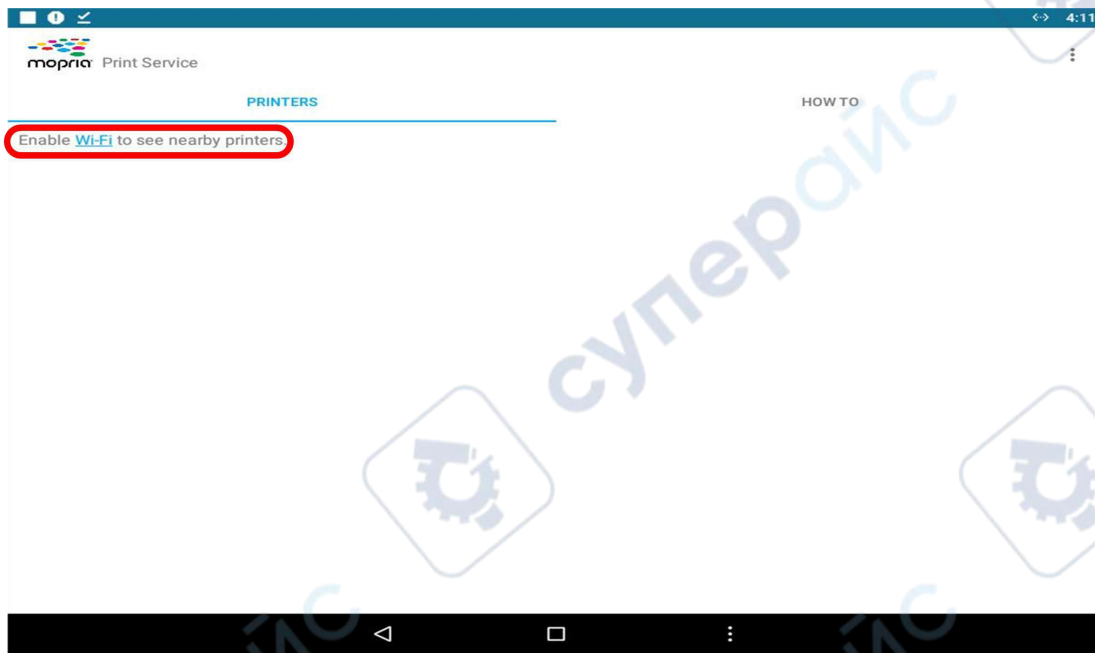
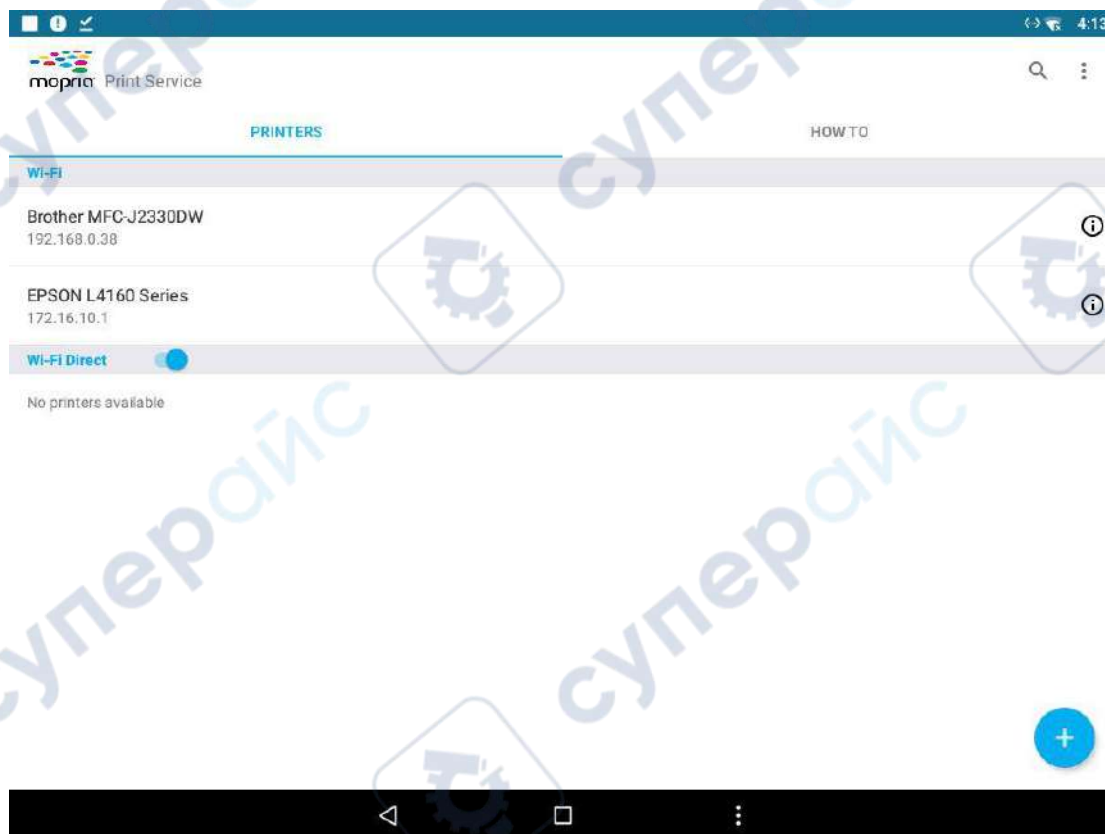

Figure 8
Figure 9
4. After entering the printing software interface, click "**Enable Wi-Fi to see nearby printers**" to connect the printer's Wi-Fi, as shown in Figure 8. The Wi-Fi connection is successful, as shown in Figure 9.